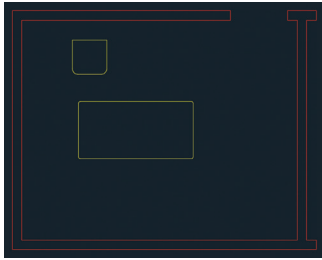

FIGURE 7.2 Using Fillet to round two corners
5. Press the spacebar to repeat the `FILLET` command. Click the bottom and right edges to create another arc. Figure 7.2 shows the result.